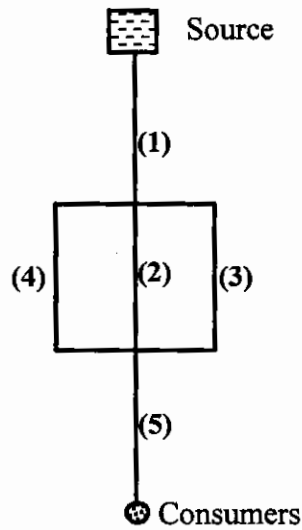

Figure Q3-1
- A. For the water distribution layout shown in Figure Q3-1 below, calculate the network reliability with respect to each of the pipes designated 1, 2, 3, 4 and 5.